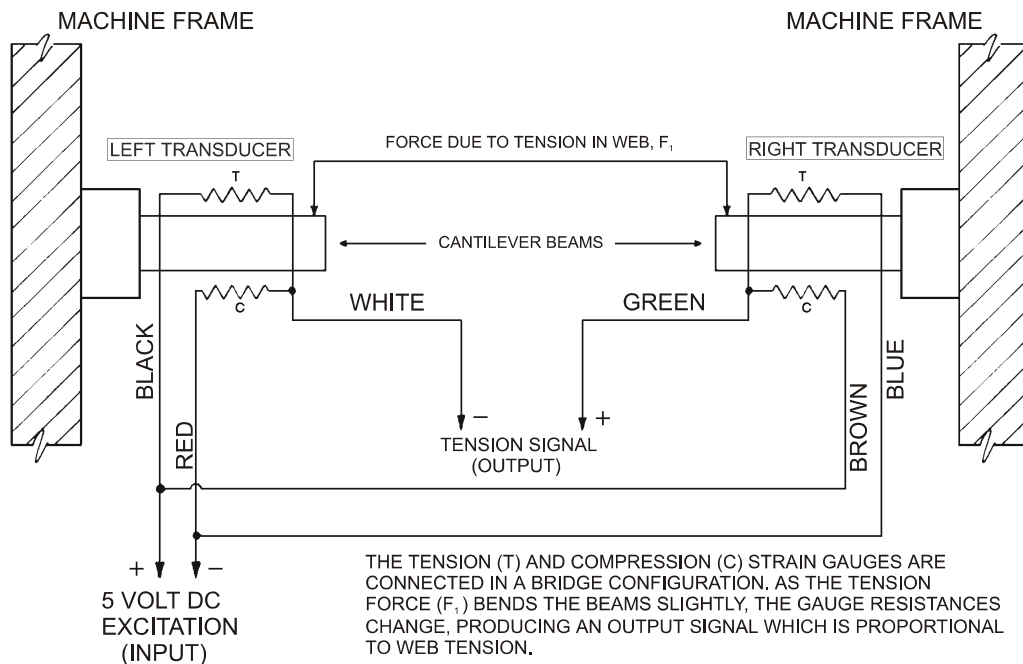

Figure 2 - STRAIN GAGE CONNECTIONS
1.3 ELECTRICAL OPERATION (see Figure 2)